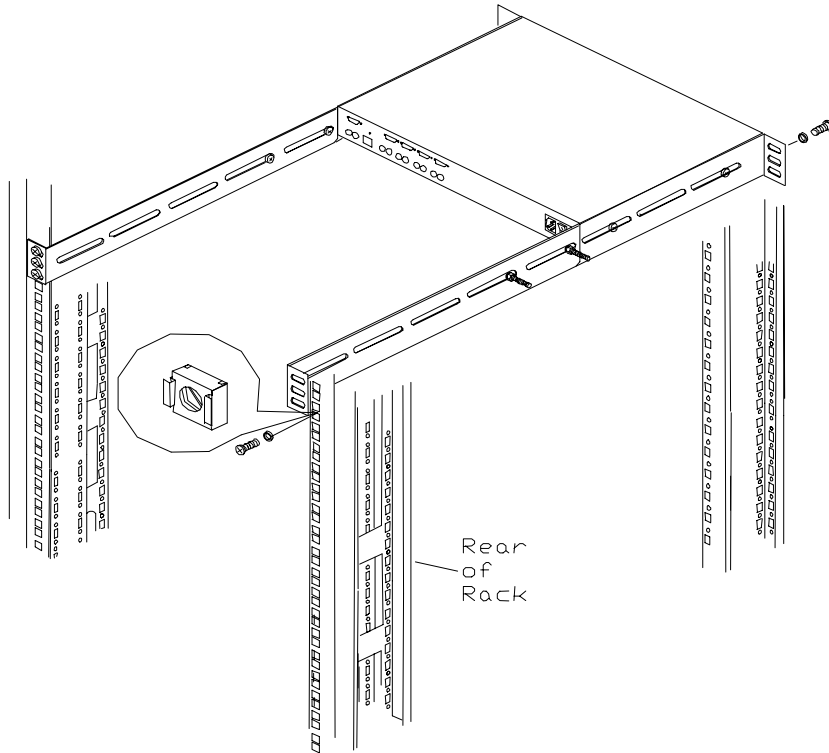

Figure 5-12. Installing the Port Concentrator
4. Install the supporting cage-nuts in the rail. See Figure 5-12.